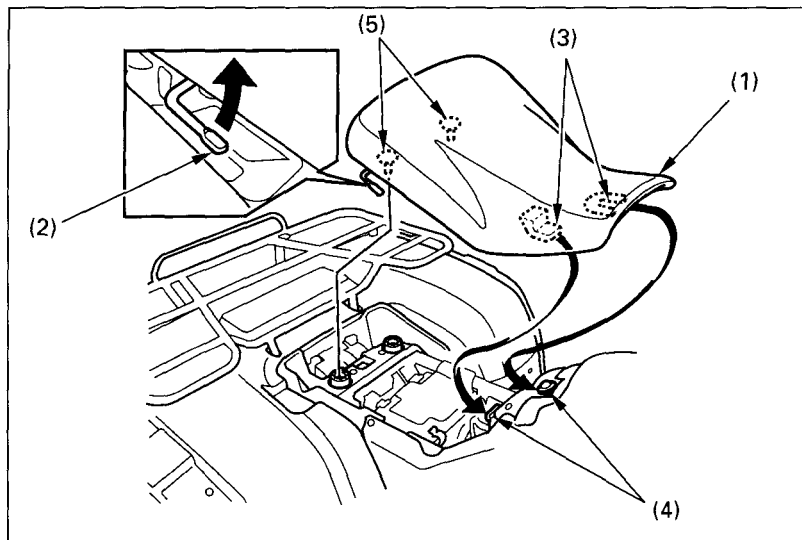

Fig. 4-38
To remove the seat (Fig. 4-38), pull up the seat lock lever (2) at the right side of the seat and lift it up.